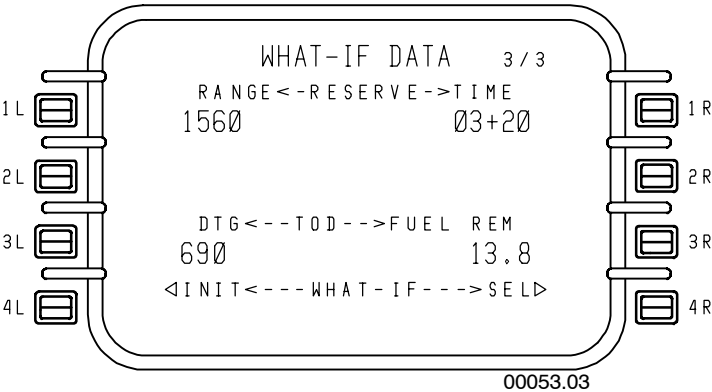

Figure 5-43
- **WHAT-IF DATA 3/3** - Figure 5-43 displays the same data as the CRUISE 2/2 page. However, the data applies to the WHAT-IF initialization only. No entries are permitted on this page.